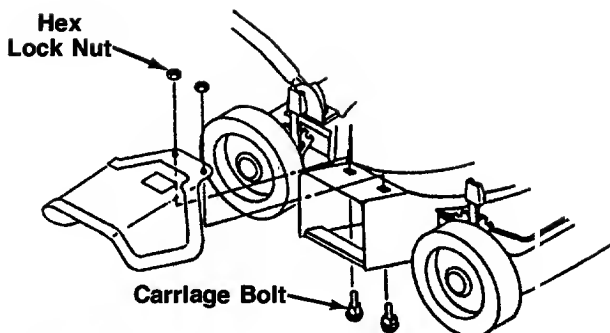

FIGURE 4.
1. Place the chute deflector in position on the deck. Secure with carriage bolts, and hex lock nuts as shown in figure 4.